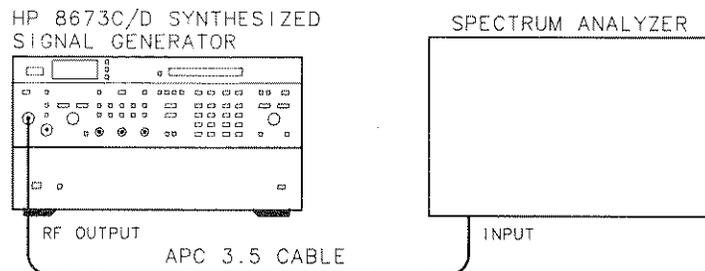

Figure 4-18. Harmonics, Subharmonics, and Multiples Test Setup
1. Connect the equipment as shown in Figure 4-18.